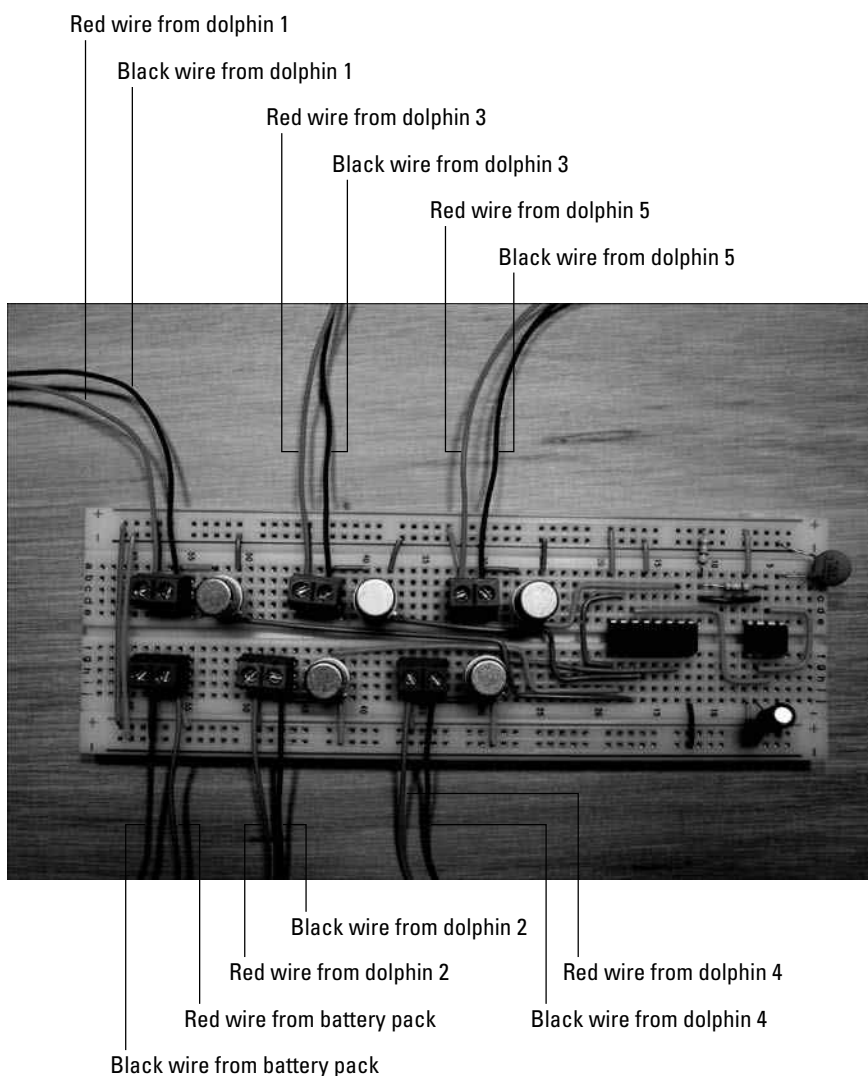

Figure 10-23:
19. Attach Velcro to the breadboard and the plywood and then attach the breadboard to the plywood, as shown in Figure 10-23.
20. Insert the wires from the battery pack and the dolphins to the terminal blocks on the breadboard, as shown in Figure 10-23.